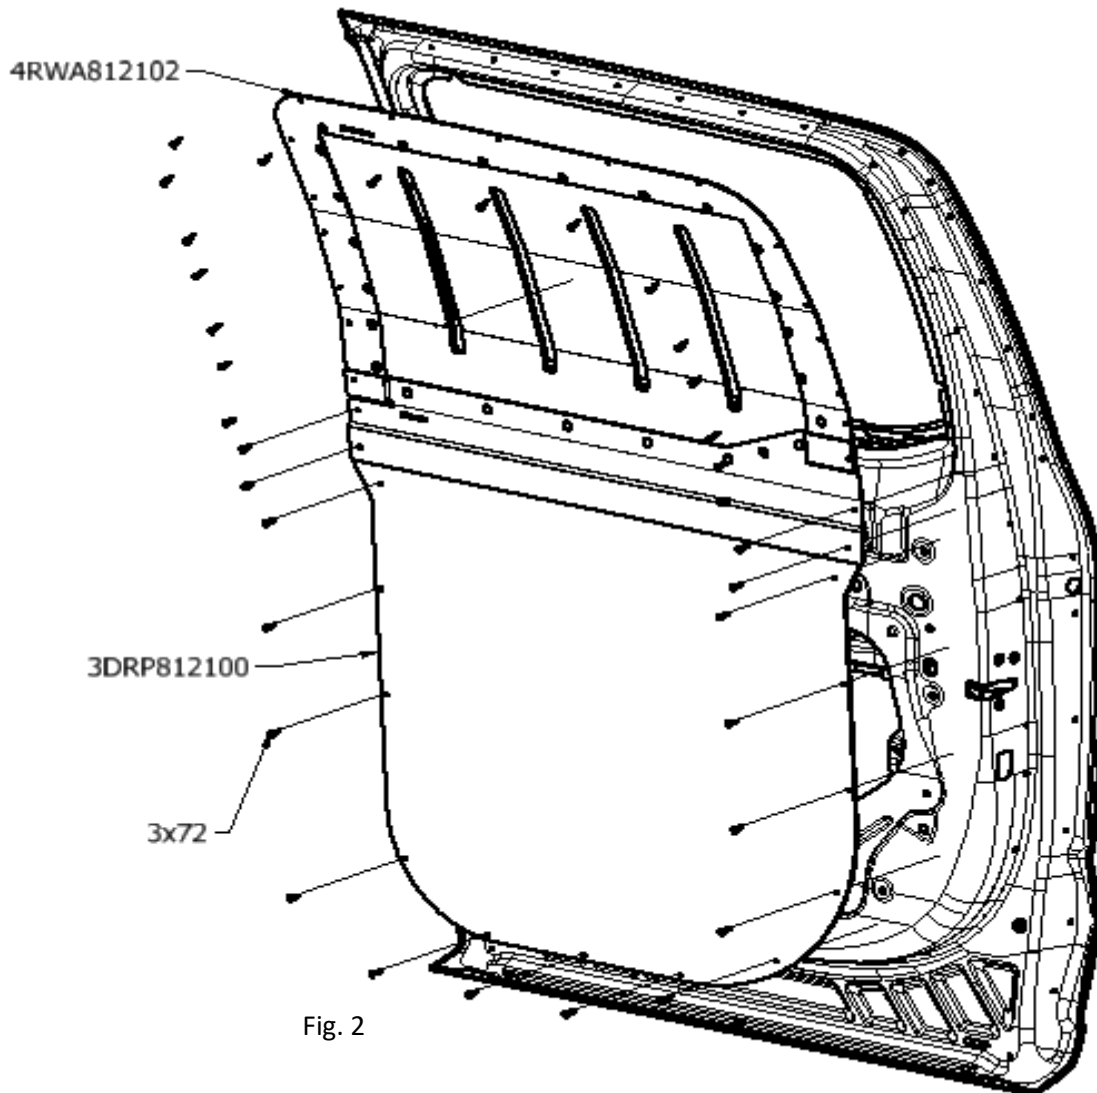

Fig. 2
- D. Once fitted satisfactorily, drive (2) self-tapping screws [3X72] into the lower 2 holes of the window armor securing both the panel and the armor (Fig. 2) If necessary, drill a 7/64" pilot hole.
- E. Drive (19) more screws [3X72] through the armor into the door. If necessary, drill a 7/64" pilot hole.
- F. Drive the remaining (12) screws [3X72] into the door panel and door. If necessary, drill a 7/64" pilot hole.